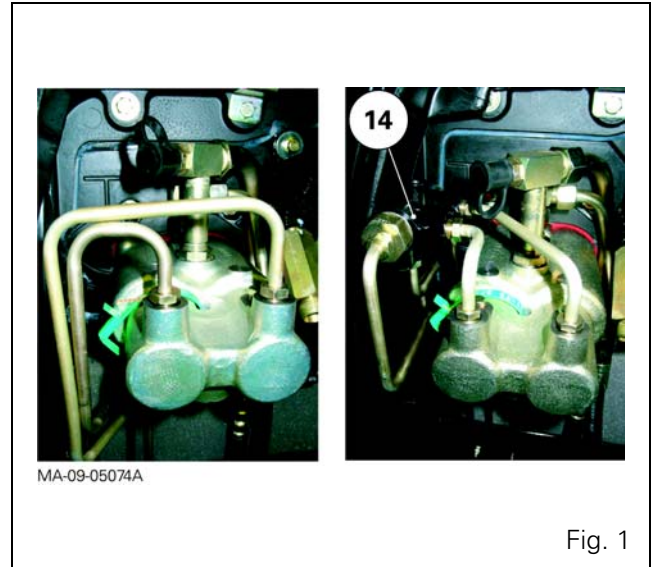

Fig. 1
The MERITOR brake master cylinders are attached to the pedal console and are housed to the right of the front firewall in the cab (Fig. 1).
The master cylinder characteristics are similar whether the requested option includes trailer brake or not. However, if the trailer brake option has been selected, a FTE valve (14) is added to the circuit to perform this function (Fig. 1).
Operation (Fig. 1 and Fig. 8)